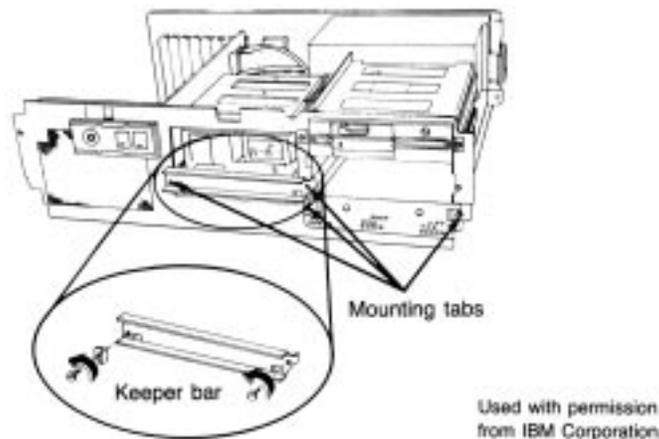

Fig. 3.13
1. Depending on whether the drive is a hard disk or floppy disk drive, it is retained by either a metal keeper bar with two screws or two small, L-shaped metal tabs each held in place by a single screw. Locate these screws and remove them, along with the tabs or keeper bar (see figs. 3.13 and 3.14).